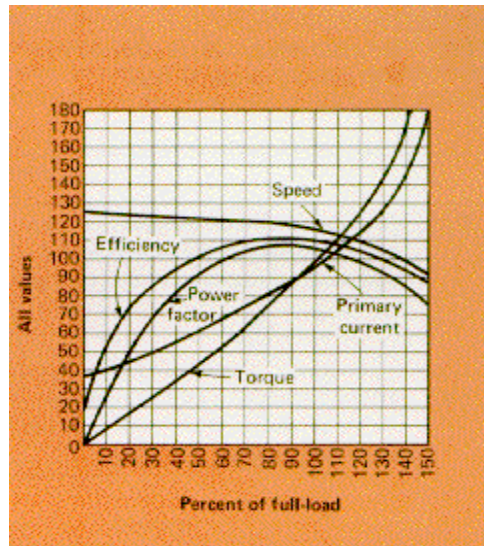

Figure 6-49: Motor Parameters vs. Percent Full Load
When the speed is calculated and placed in the Speed (RPM) box, compare this speed along with the % FLA value to the nameplate speed in the speed (NP) box to verify that the highlighted peak is the F_p side band frequency. Refer to the graph in Figure 6-49 to aid in verification.
- If the % FLA value is near 100%, the Speed (RPM) value should be close to the Speed (NP).
- If the % FLA value is less than 100%, the Speed (RPM) value should be higher than the Speed (NP). For maximum test effectiveness, % FLA should be greater than 70% during the tests.